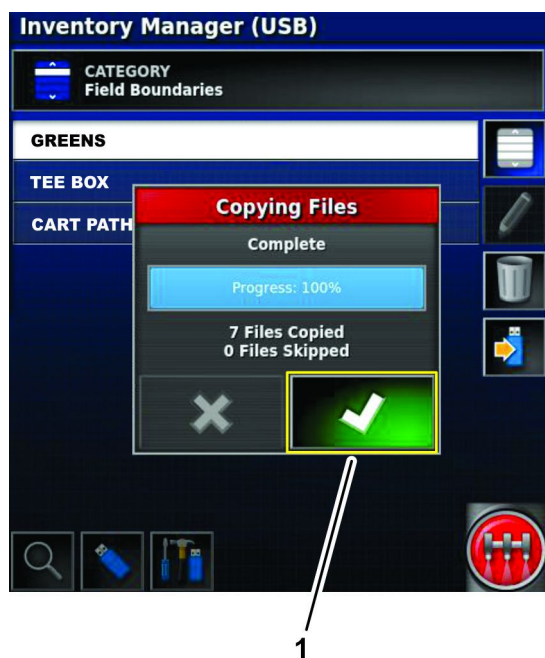

Figure 106
9. In the exporting files dialog box, press the confirm icon (Figure 106).